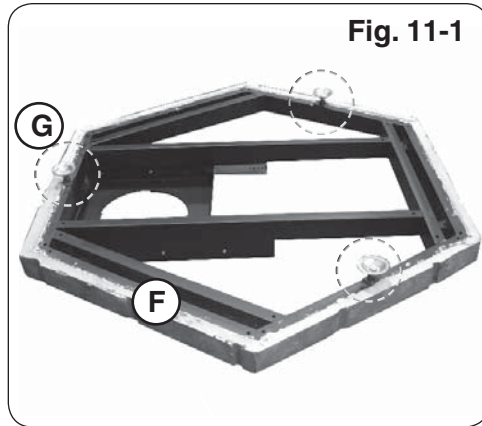

Fig. 11-1
1. Install the three levelers (G) onto the bottom of the campfyre base (F) as shown in Fig. 11-1.